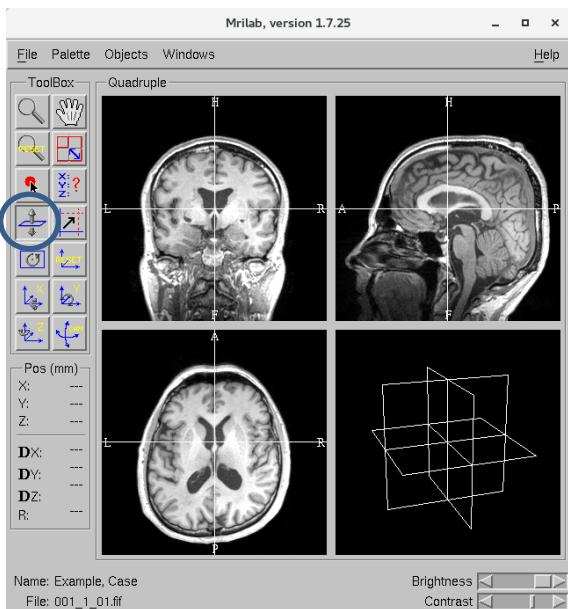

Figure 10: Mrilab user interface. The **Move Slice** tool is circled.
- Adjust the contrast and brightness sliders at the lower right corner of the window (Figure 10).